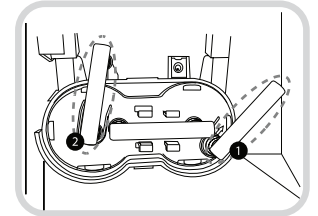
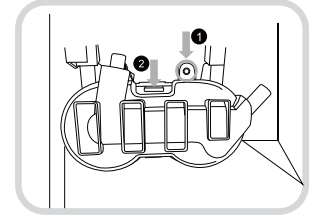

Fig. 10
Fig. 11
- If the Filter connectors are not properly fitted, there is a risk of water leak. (Fig. 10) (Fig. 11).